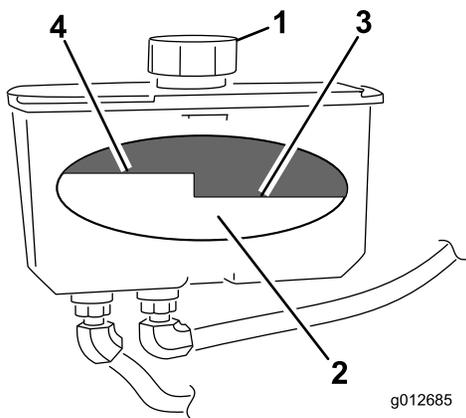

Figure 72
4. Clean area around cap and filler neck of hydraulic tank (Figure 72).
5. Remove cap from filler neck. Look inside to check the fluid level in the reservoir. (Figure 72).
- Note:** The fluid level should be to the top of the hot level of the baffle, when the fluid is warm (Figure 72).